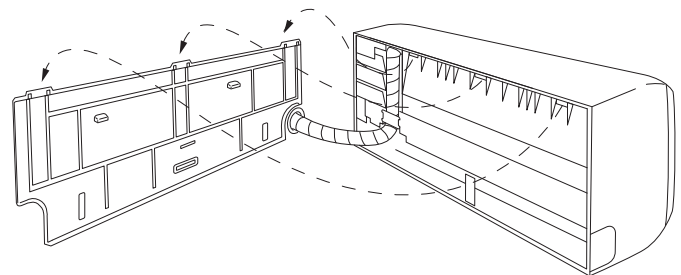

Fig. 36
- (2) Push the wiring, refrigerant tubing, and drain hose through the hole in the wall. Adjust the indoor unit so it is securely seated on the rear panel. (Fig. 36)
- (3) Carefully bend the tubing (if necessary) to run along the wall in the direction of the outdoor unit and then tape as far as the fittings. (See Caution on page 25.) The drain hose should come straight down the wall to a point where water runoff won't stain the wall.